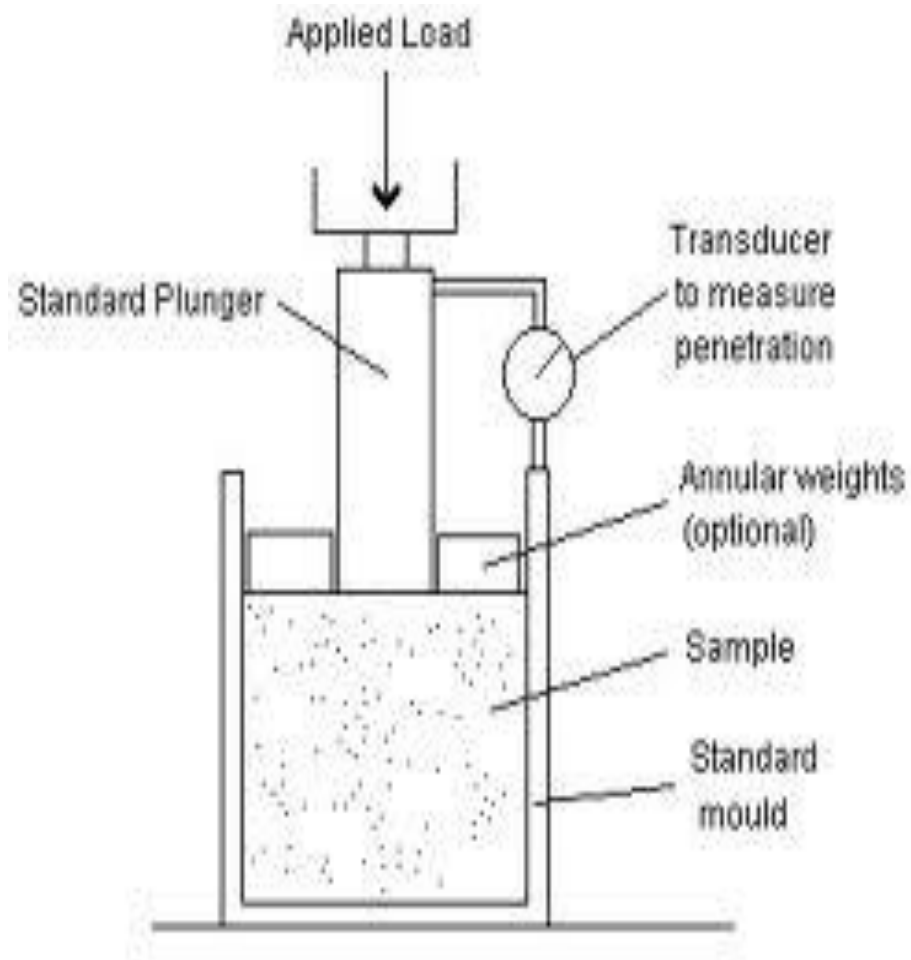

Fig 2.Schematic of CBR Test
1) Place the mould assembly with the surcharge weights on the penetration test machine. ( Fig 2)